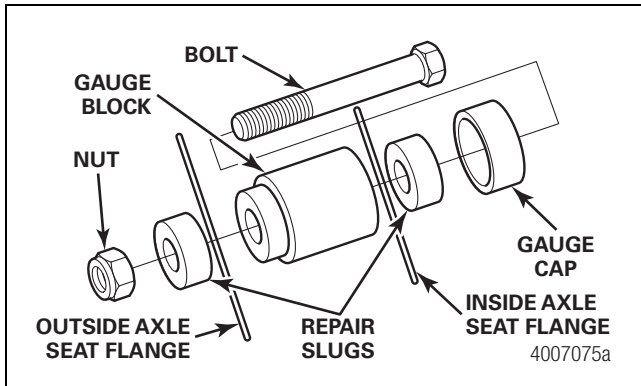
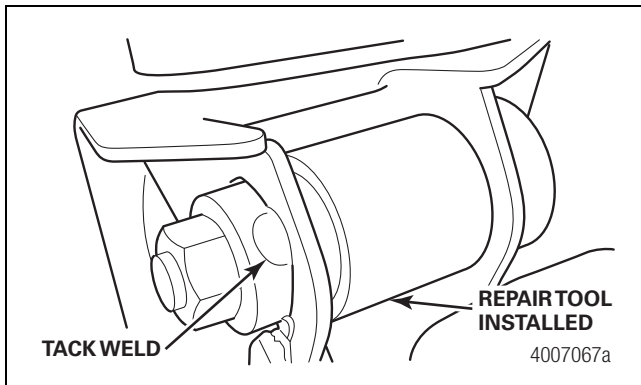

Figure 15
Figure 16
- Follow the steps below to install the repair slugs onto the axle seat using the repair slug locator tool. Figure 15 and Figure 16.
8. Set the mig welder to approximately 24 volts. Use 0.035 wire and 75/25 gas to tack weld the outside repair slug at the 10, 2, 4 and 8 o'clock positions. Figure 16.